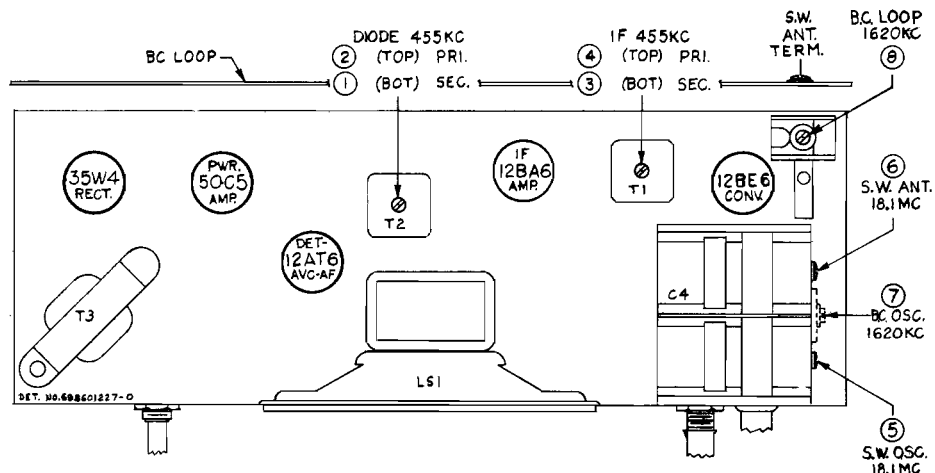

FIGURE 2. TUBE & TRIMMER LOCATIONS
7. See Figure 2 for adjustment locations and the following chart for procedure.